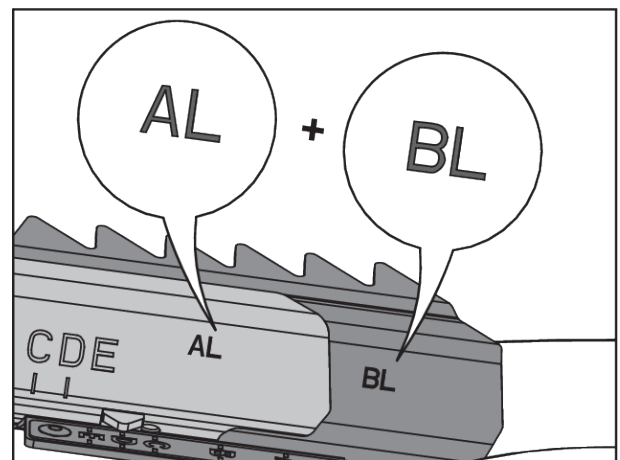

Fig. 81: Spreading vane combination
- See Fig. 81 Spreading vane combination